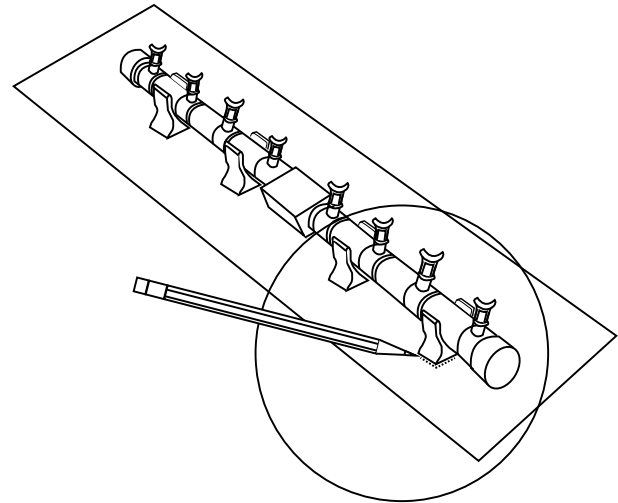

Fig. 9 Tracing burner supports.
Step 3: After the burner supports are installed, set the Pro T-Burner into the burner pan, using the nipple to center the burner inside the pan (Fig. 9). While holding the burner place, use a pencil or marker to trace around each burner support to mark their location. Remove the T-Burner from the pan to reveal the outlined area for each burner support.